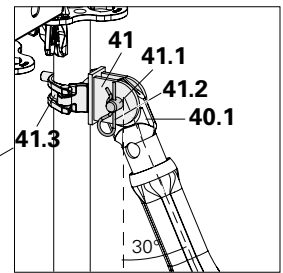

Fig. B3.01a
1. Secure coupling (**41.3**) of the brace connector (**41**) to the standard of the shoring tower, and align. (Fig. B3.01a)